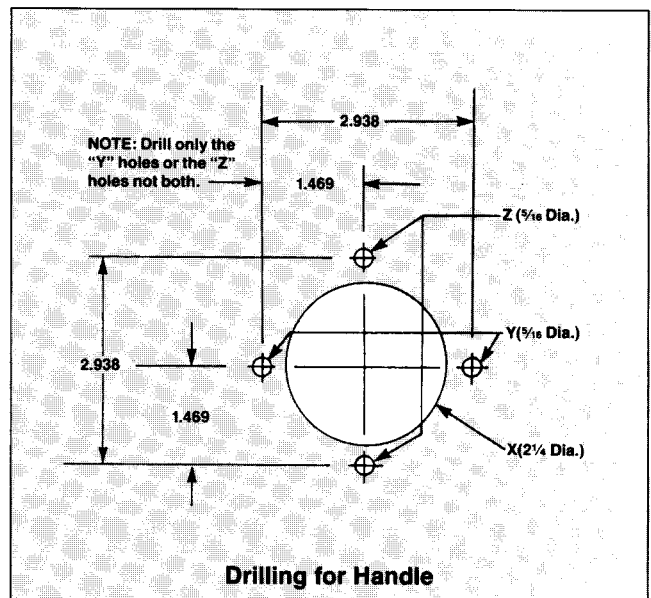

Figure 2a
- C. Find handle center dimensions **D** and **E** by adding enclosure thickness and cover overhang (**C₁** and **C₂**) to **A** - $\frac{11}{16}$ and **B** + $\frac{5}{16}$. Drill hole **X** ($2\frac{1}{4}$ in. dia.) and drill either holes **Y** or **Z** ($\frac{5}{16}$ in. dia.) depending on handle orientation required (Figure 2a).